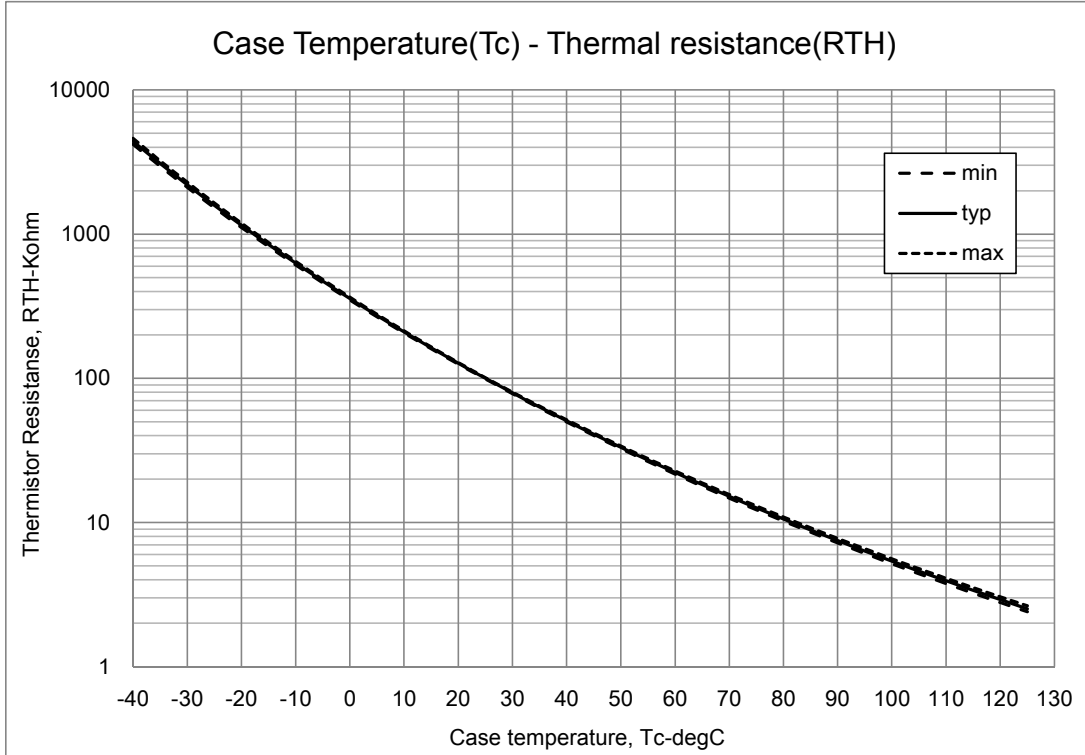
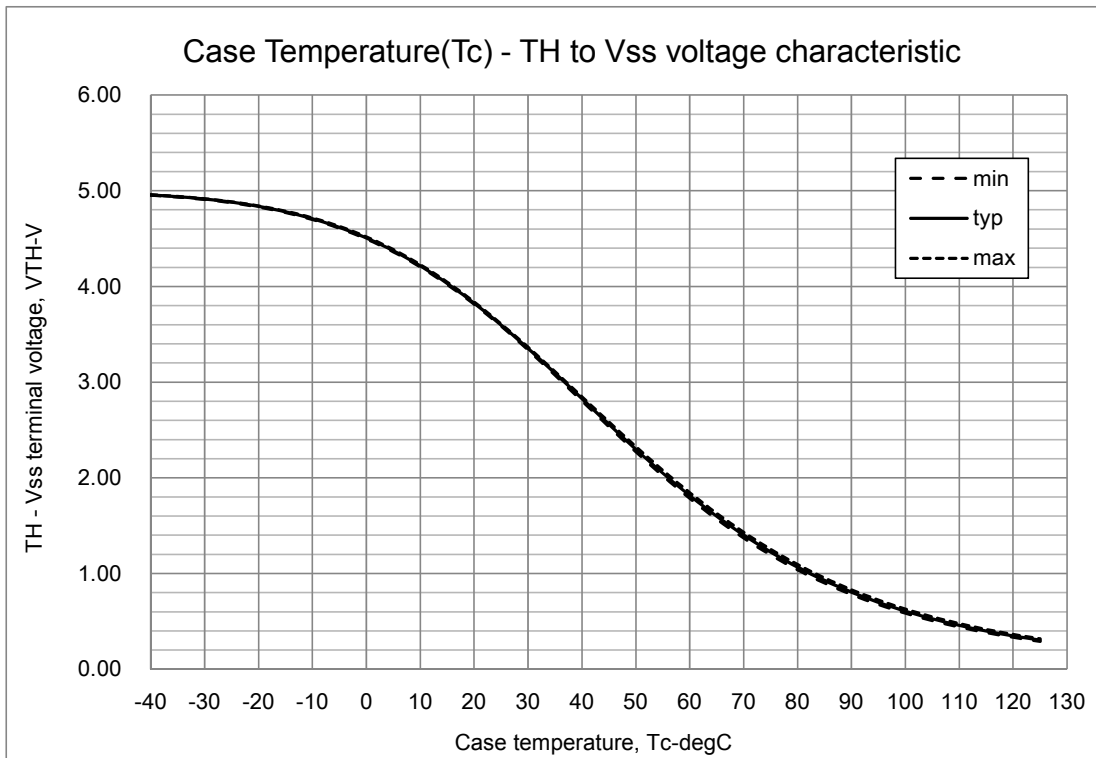

Fig.10 Variation of thermistor resistance with temperature
Fig.11 Variation of thermistor terminal voltage with temperature (39kΩ pull-up resistor, 5V)
5. Inside the IPM, a thermistor used as the temperature monitor for internal substrate is connected between V_{SS} terminal and TH terminal therefore, an external pull up resistor connected between the TH terminal and an external power supply should be used. The temperature monitor example application is as follows, please refer the Fig.10, and Fig.11 below.